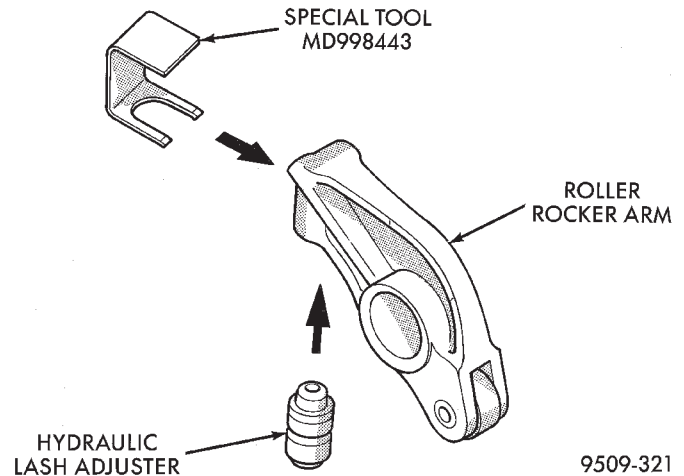

Fig. 39 Retainer Auto Lash Adjuster
- (1) Remove the cylinder head covers.
- (2) Install auto lash adjuster retainers Special Tool MD-998443 (Fig. 39). These retainers hold the lash adjuster into position when the rocker arms are serviced.
- (3) Mark rocker arm shaft assemblies for installation.
- (4) Remove rocker arm shaft bolts. Refer to procedure outlined in this section.
- (5) Remove the timing belt and camshaft sprocket. Refer to timing belt and sprocket removal outlined in this section.
- (6) Remove cylinder head retaining bolts. Remove cylinder head from vehicle.
- (7) Remove thrust case from left head assembly and remove camshaft from the rear of the head.